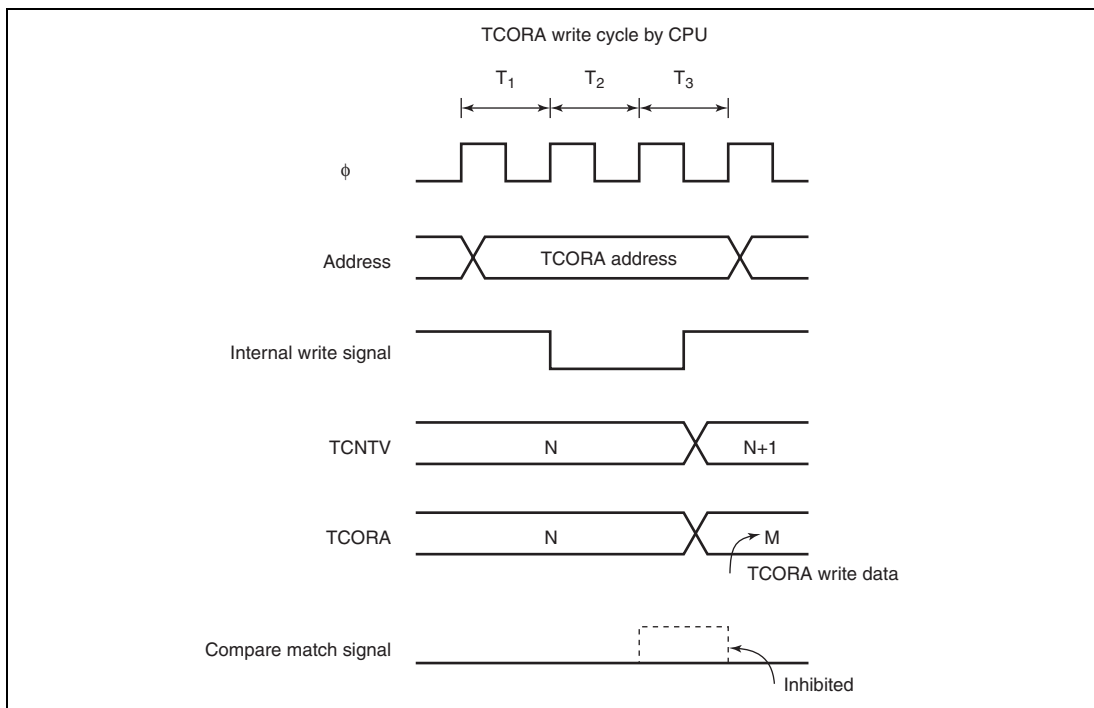

Figure 10.12 Contention between TCORA Write and Compare Match
2. If a compare match is generated in the T3 state of a TCORA or TCORB write cycle, the write to TCORA or TCORB takes precedence and the compare match signal is inhibited. Figure 10.12 shows the timing.